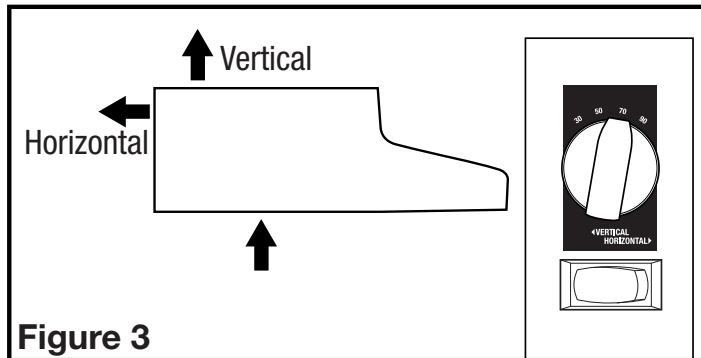

Figure 3
- To choose between Vertical or Horizontal airflow, move the rocker switch located inside the wire compartment to the appropriate direction (**Figure 3**).